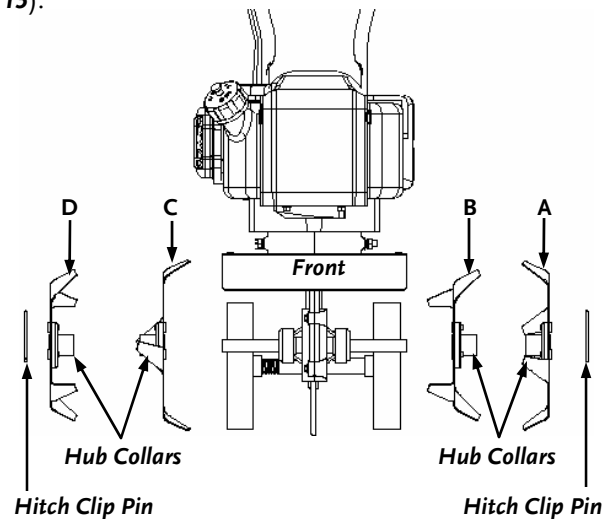

Figure 13
1. Remove the Hitch Clip Pin from each end of Tine Shaft (**Figure 13**).
2. Slide the four (4) Tines off the Shaft.
1. Locate the inside Tines, they are stamped with a **B** and a **C** (**Figure 13**). Slide the inside **B** Tine onto the Left Tine Shaft (as viewed from Handlebars) and then slide the **C** Tine onto the right Tine Shaft.
2. Locate the outside Tines, they are stamped **A** and **D** (**Figure 13**). Slide the outside **A** Tine onto the Left Tine Shaft and then slide the **D** Tine onto the right Tine Shaft.
NOTE: You should now have the Tines installed in the order **A, B, C, D** from right to left as viewed from the Front of the Tiller (**Figure 13**). Make sure that the Hub Collars on both the right and left pair of Tines face each other to allow for adequate spacing between the Tine Blades (**Figure 13**).